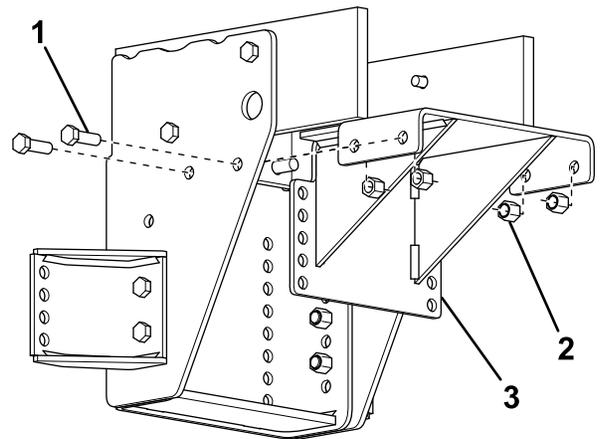

Figure 5
- Secure the center gusset to the sideplates using 4 bolts (1/2 x 1-1/2 inches) and nuts (Figure 5).